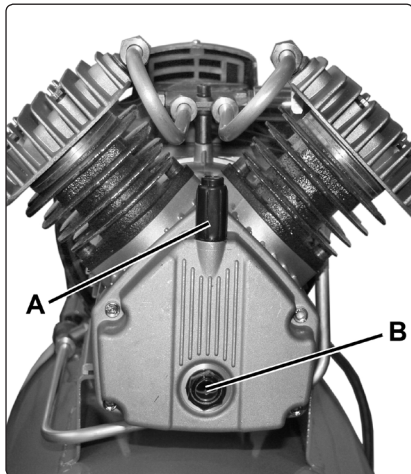

fig.2
- 3.6. The compressor is shipped with oil in the pump, but the level needs checking before starting the unit for the first time. Check the oil level by referring to the oil sight glass (fig.2.B). If the oil level is not up to the red centre mark, it should be topped up. Remove the plastic transit plug from the oil filler hole and if required, pour in the recommended oil. (See section 5.6). Screw the filler/breather cap supplied into the aperture as shown (fig.2.A).
- a) Replace the lubricating oil. For oil specifications see below. Remove the oil filler/breather plug (fig.2.A) then unscrew oil sight glass (fig.2.B). Drain oil into a suitable container. Drain when the compressor is hot if possible, so that the oil drains rapidly and completely. Incline the compressor to ensure complete drainage. Replace oil sight glass and refill with fresh oil through the oil filler/breather aperture. Do not overfill. Replace oil filler/breather plug.